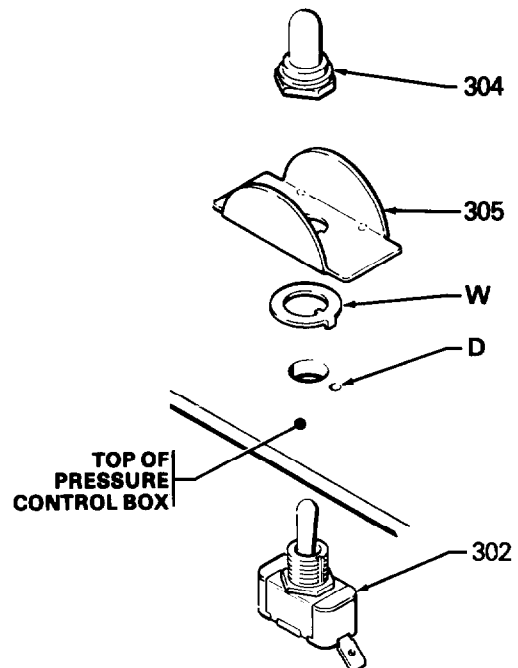

Fig 13
4. Use a 5/8" socket wrench to loosen and remove the nut and rubber boot (304) from the top of the pressure control box. Remove the switch guard (305). See Fig 13.
6. Install the new switch so the internal tab of the anti-rotation ring (W) engages with the vertical groove in the threads of the switch, and the external tab engages with the blind hole (D) of the pressure control box. See Fig 13.
7. Install the switch guard (305), aligning the internal tab with the groove in the threads. See Fig 13.
8. Install the nut and rubber boot (304) and tighten. See Fig 13.
2. Turn the pressure control knob all the way counter-clockwise to the minimum setting to release spring tension on the circuit board (23). Also check to be sure only three or four threads of the pressure control knob shaft are exposed below the pressure adjustment nut (S). Back down the nut, if necessary. See Fig 13.